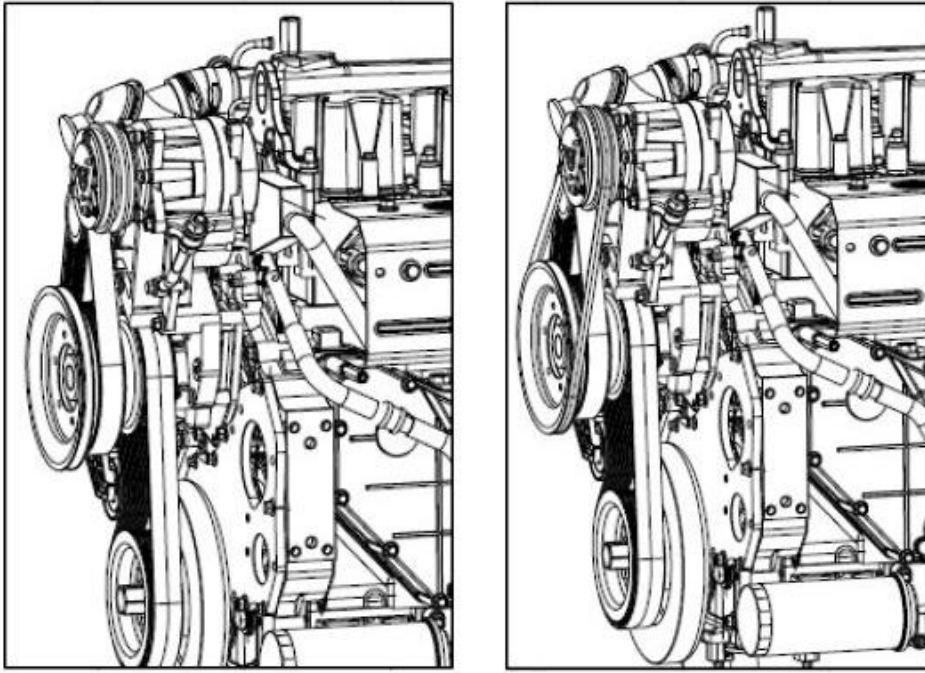

Fig. 4-81 Assembly of A/C compressor
- (2) Install A/C compressor V-belt.
- (3) Adjust the location of compressor and tension the V-belt with the draw-in rod, tighten compressor fixing bolts and nuts, as shown in Fig. 4-81.